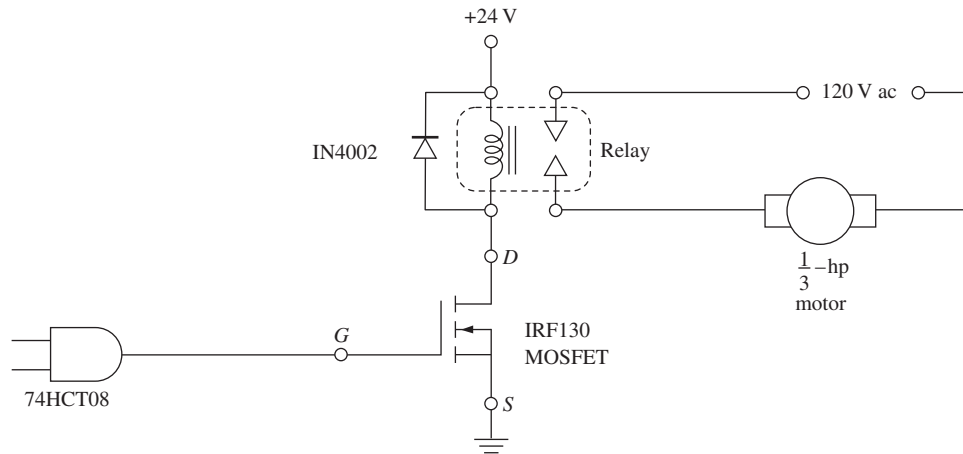

Figure 52 Using a power MOSFET to interface digital logic to high-power ac circuitry.
Figure 52 shows a circuit that could be used to drive a $\frac{1}{3}$ -hp ac motor from a digital logic circuit. Because the starting current of a motor can be extremely high, we will use a relay with a 24-V dc coil and a 50-A contact rating. A relay of this size may require as much as 200 mA to energize the coil to pull in the contacts. A MOSFET such as the IRF130 can pass up to 12 A through its drain to source, so it can easily handle this relay coil requirement.
18. In Figure 52, why can't you drive the relay directly with 74HCT08 instead of using the MOSFET?